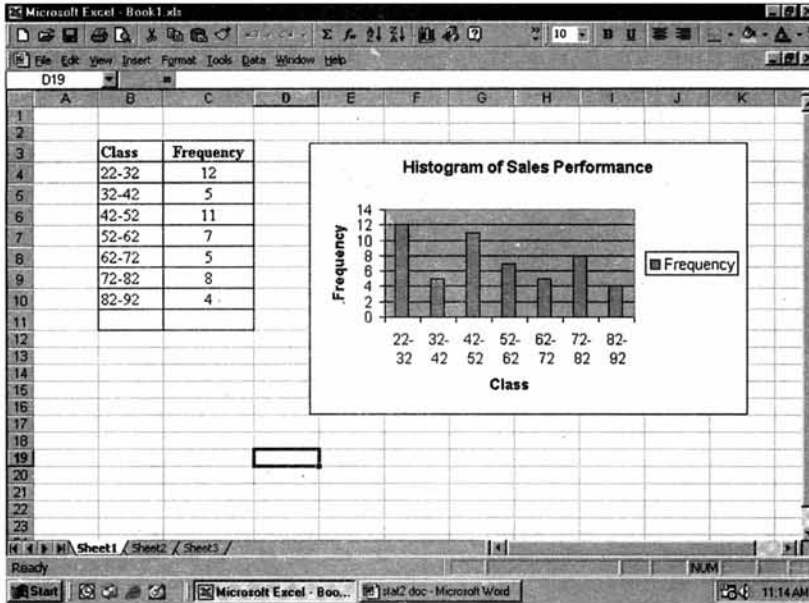

Figure 2.17
- Step 7** You have the option to save the picture either as an object in sheet 1 or in a new sheet. The default option is as object in sheet 1. If you want to exercise the default option Click *Finish*. You get the histogram in the existing sheet. This screen is given in figure 2.17.